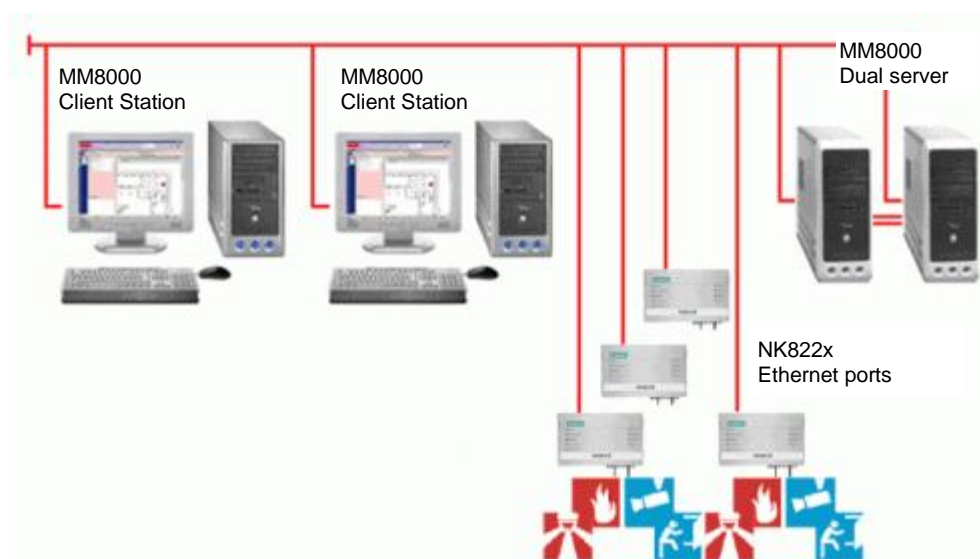

Fig. 31 Redundant distributed configuration
- **Redundant distributed configuration:** For maximum reliability, the server hardware can be doubled. (See Fig. 31.) In this solution, the field connectivity is based on NK822x network units.